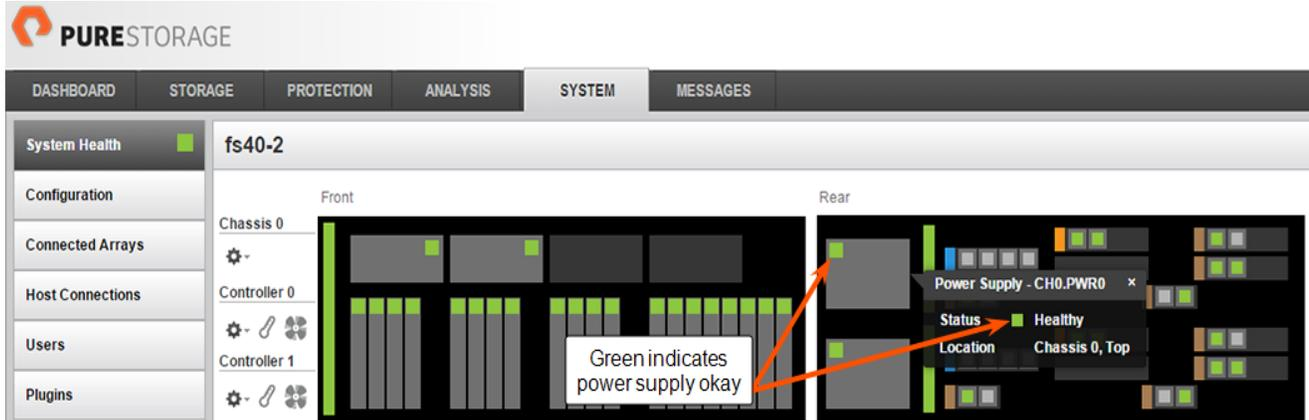

Figure 4-5. GUI Indication of Functional PSU
1. Request that the customer or Pure Storage Technical Support representative use the Purity GUI or CLI to verify the replacement. See Figure 4-5 for an example of GUI indicators and Figure 4-6 for an example of CLI indicators that reflect an operational power supply.